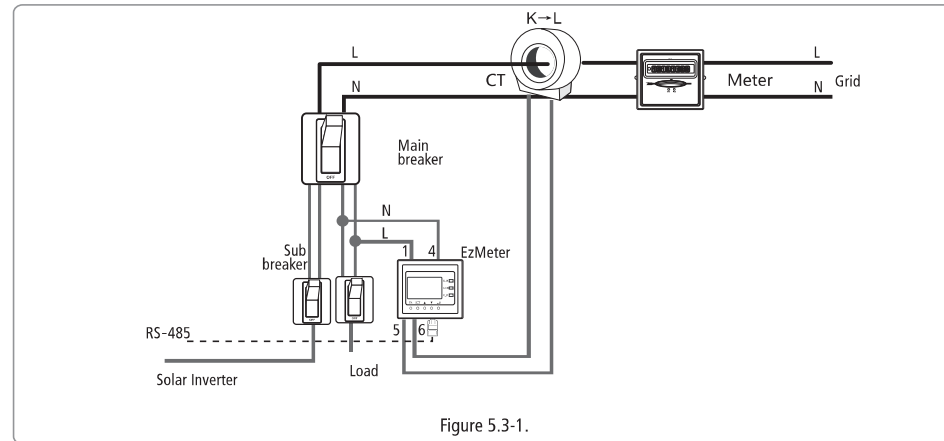

Figure 5.3-1.
For the connection method of EzMeter & CT, please refer to Figure 5.3-1.
- (1) Connect the CT to the main 'L' line as the Figure 5.3-1 shows, making sure that the CT direction is 'K'→'L';
- (2) Connect the EzMeter to the random 'L' and 'N' line, as per figure 5.3-1. To power up the EzMeter and detect the grid voltage, please make sure that '1' connects to 'L' and '4' connects to 'N'.